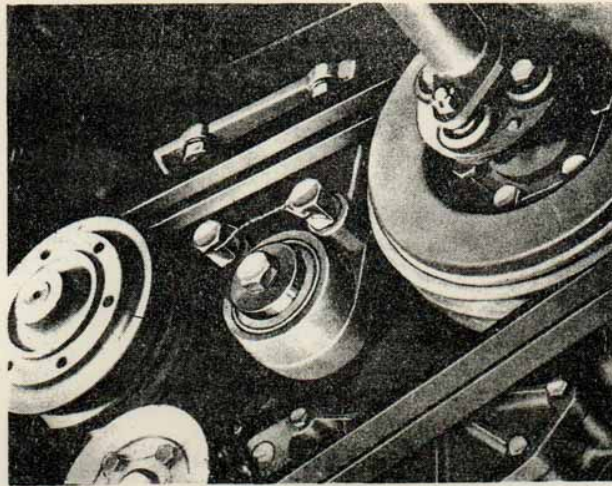

FIG. 62. ENGINE FRONT MOUNTING BRACKET.
17. Take the weight of the engine on suitable lifting gear, split the engine front mounting bracket by removing the two setscrews (Fig.62). Detach the two engine rear mounting brackets from the crossmember by removing three setscrews from each bracket.